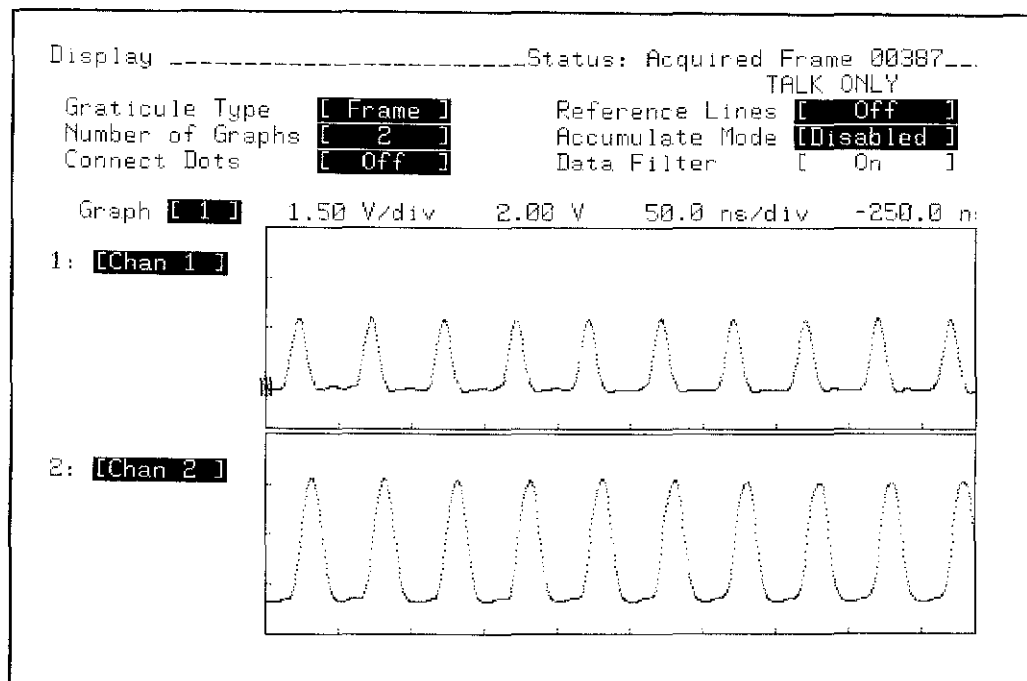

Figure 3-37. DISPLAY Configuration and Clock Repetition Rate Test Waveforms
10. Configure the display as shown in figure 3-37. Observe the two waveforms displayed on the HP 54201D. The two waveforms should appear similar to those shown in figure 3-37.